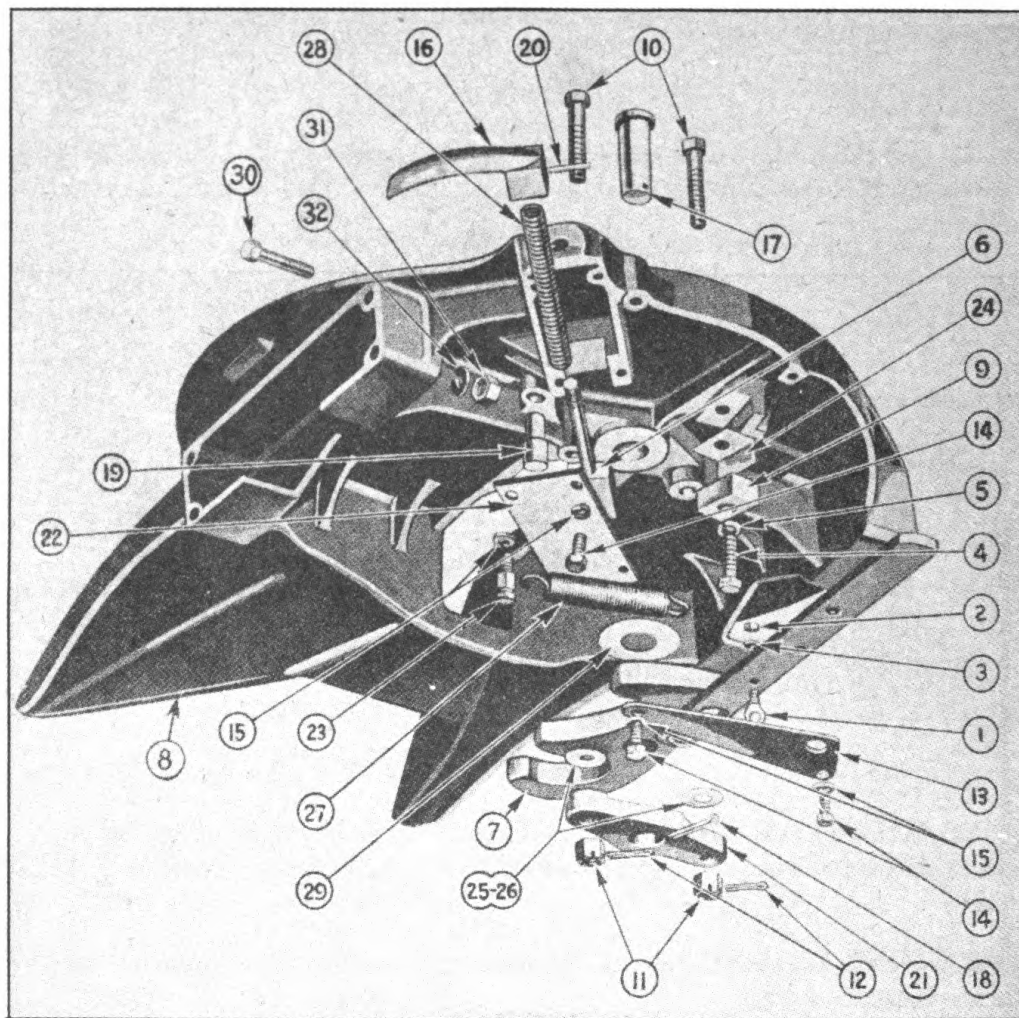

FIGURE 49. COUPLER—EXPLODED
4. **TESTING AND CORRECTING PLAY IN HOOK** (Figure 49).—*a.* If the hook pin (17) becomes worn, the coupler will develop an excessive “slap” and lost motion. The following repairs may be made with coupler attached to converter gear.
(2) **Hook** (Figure 49): (*a*) **Removal:** 1. Remove cotter pins (12 and 18) and nuts (11).
5. Lift the shims (25 and 26) off bolts (10) and lift the hook (7) out.
(b) *Replacement* (Figure 49): 1. Place a light film of grease around pin (17), over washers (29), and on the surface of hook plate.
2. Place washers (29) over hook pin (17).
3. Place hook (7) over hook pin (17).
4. Place shims (25 and 26) over bolts (10).
5. Place hook plate (21) over hook pin (17) with the embossed surface down and install the two nuts (11) on the bolts (10).
6. Install the eye bolt (1) to hook handle (7).
7. Couple the spring (27) between the eye bolt in hook handle and special hook spring cap screw (23).
(c) *Installation of hook lock handle* (Figure 49).—1. When performing this operation disconnect converter gear from trailer.
| (1) Loose mounting bolts or nuts. | (1) Check nuts (11 and 31), tighten (Figure 49). |